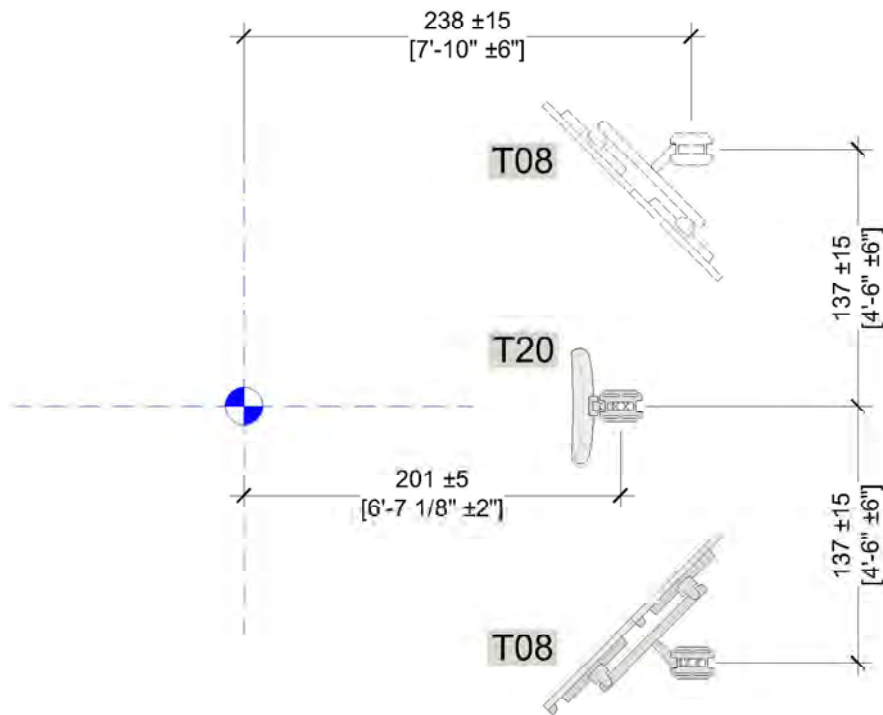

Figure 3-7 Treatment Room Ceiling Mounted Components (Plan)
- The IRMs (T08) in Figure 3-7, may be located on either side of isocenter, typically on the opposite side of the maze entrance, refer to Section 2.7.5 and Section 4.5 for more information.